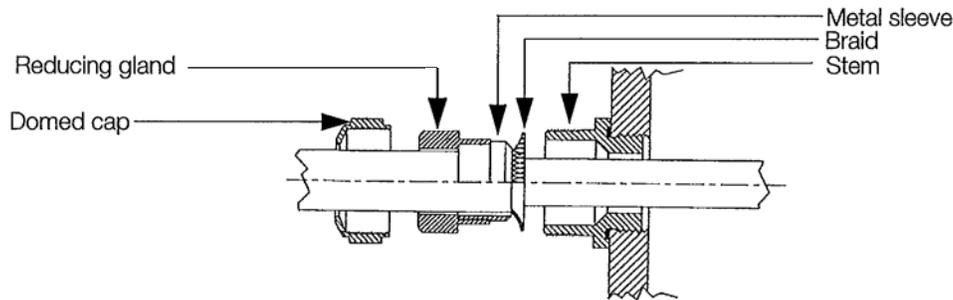

Figure 2-2. Metal Cord Grip
7. Lower the reducing gland assembly so that the end of the metal sleeve is at the edge of the insulation and fold the braid over the metal sleeve (Figure 2-2). Trim the braid if necessary.
- Lower the reducing gland assembly so that the end of the metal sleeve is at the edge of the insulation and fold the braid over the metal sleeve (Figure 2-2). Trim the braid if necessary.
7. Lower the reducing gland assembly so that the end of the metal sleeve is at the edge of the insulation and fold the braid back over the sleeve (see Figure 2-2). Trim if necessary.
4. Lower the reducing gland assembly so that the end of the metal sleeve is at the edge of the insulation and fold the braid back over the sleeve (see Figure 2-2). Trim if necessary.
2. Remove domed cap, reducing gland and metal sleeve from cord grip and place them on the cable (see Figure 2-2).